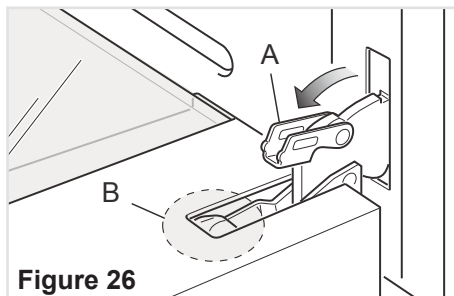

Figure 26
- Open the lever "A" completely on the left and right hinges (fig. 26).
- Gently close the door until left and right hinge levers "A" are hooked to part "B" of the door (figs. 26, 27).